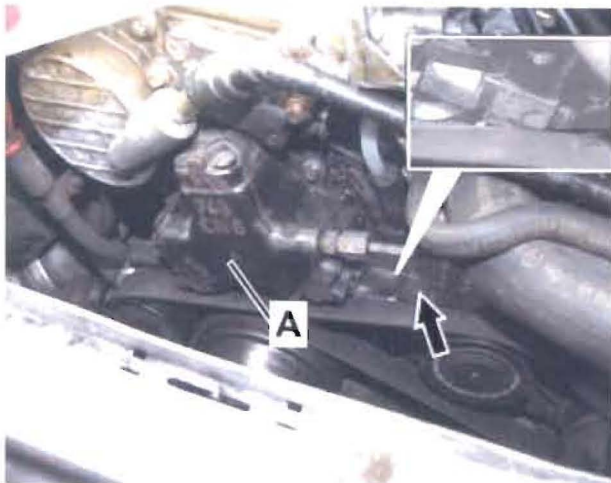

Figure 17
32. Disconnect harness connector (arrow, Figure 17) from high pressure pump (A).